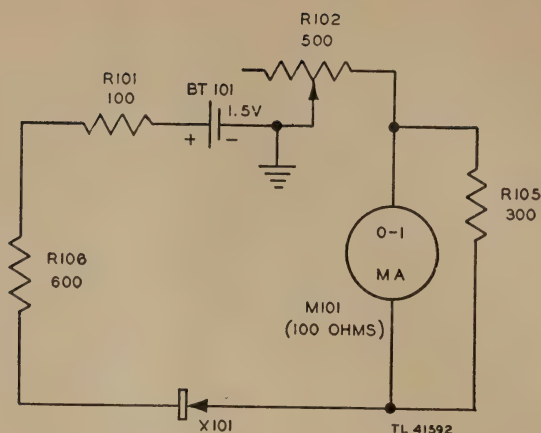

Figure 17. Circuit for backward resistance measurements, schematic diagram.
d. *BACK RES Position* (fig. 17). When the selector switch is in this position (position 3), the same connections are made as in c above, except that the connections to the crystal rectifier are reversed. The subsequent reading obtained on the meter then represents the backward resistance of the crystal rectifier.